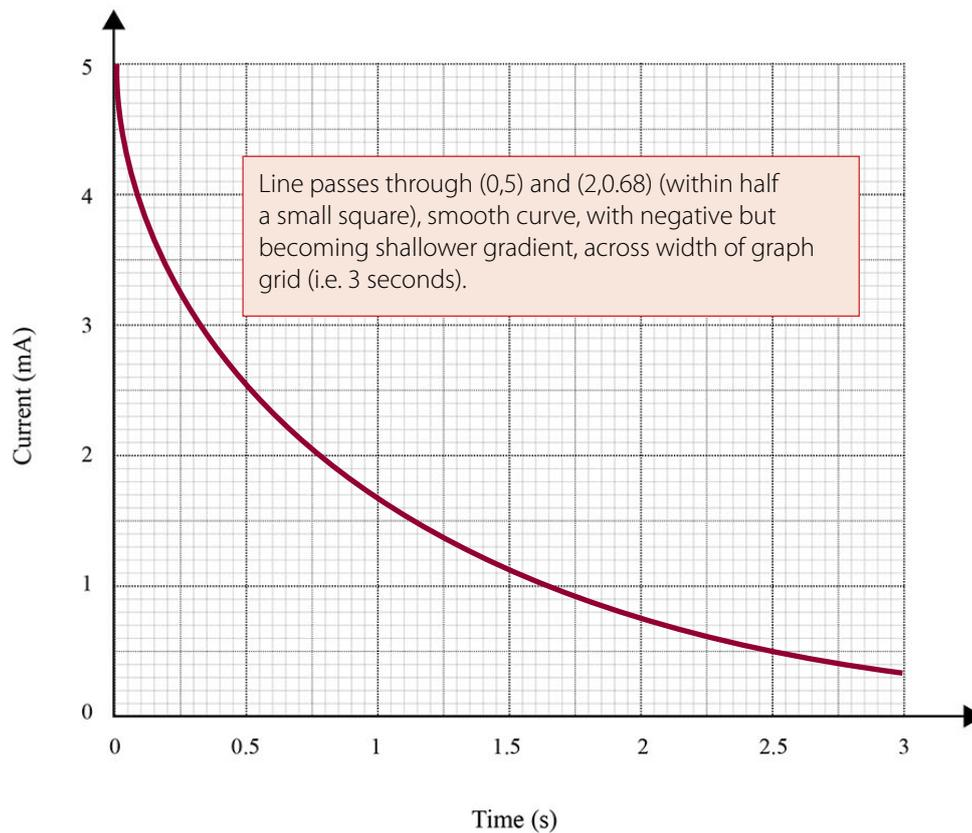

Fig. 3
- (i) On the axes shown in Fig. 3 sketch the graph to show how the current through the resistor changes with time over the first 3 seconds.
- (ii) Explain how the graph drawn in Fig. 3 could be used to find an approximate value of the time constant for the discharge of the capacitor.